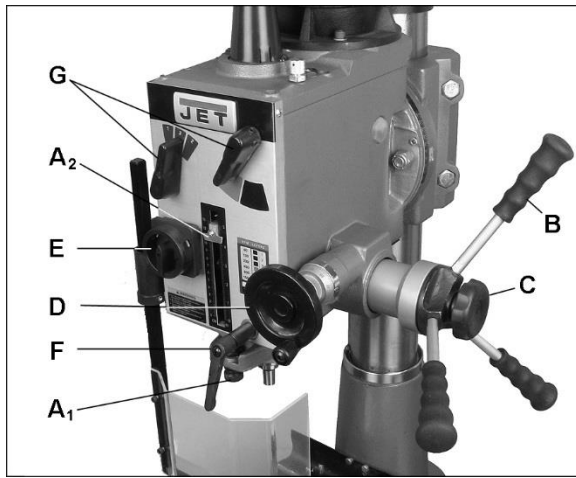
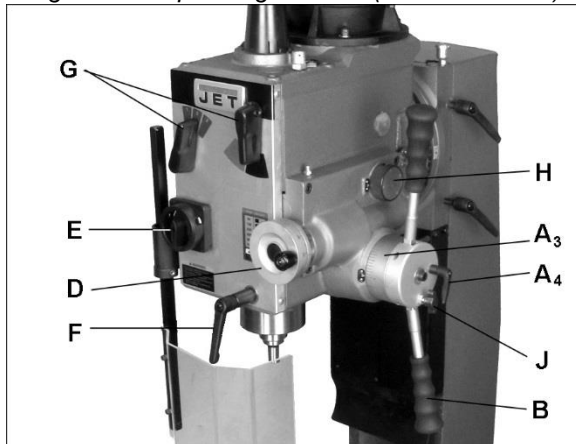

Figure 8-1: operating controls (non-PF models)
Figure 8-2: operating controls (PF models)
Refer to Figure 8-1 (non-powerfeed models) or Figure 8-2 (powerfeed models).
See Figure 8-2.
Non-powerfeed models (Figure 8-1):
Powerfeed models (Figure 8-2):
3. Tighten spindle lock (F, Figures 8-1,8-2) at desired height.